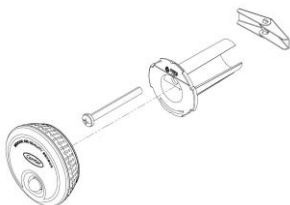

Figure 1
1. Drill a hole of dia 25mm (1") and mount the Multi Sensor grommet (Figure 1) using a toggle bolt grommet. Make sure the level lines on the grommet are parallel to the floor.